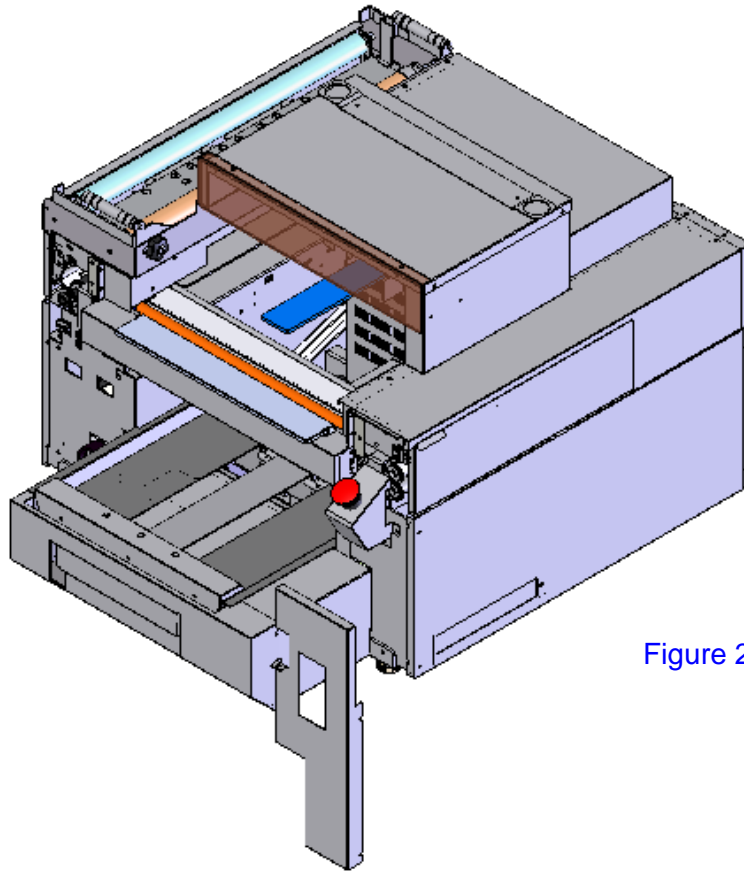

Figure 2.
7. Remove the right, front cover (three screws). See Figure 2.